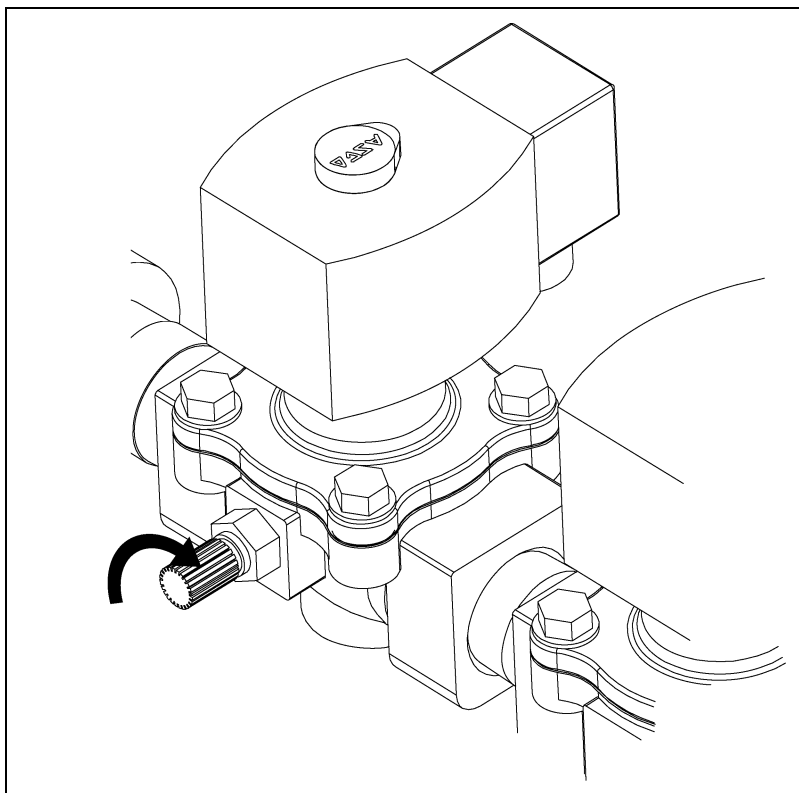

Figure 5U
4. Reduce low-fire flame, so that flame is stable and does not 'pop'. (*See Figure 5U.*)